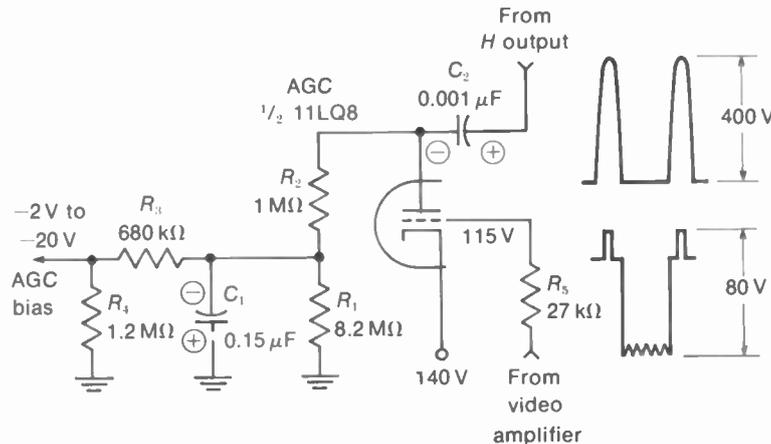
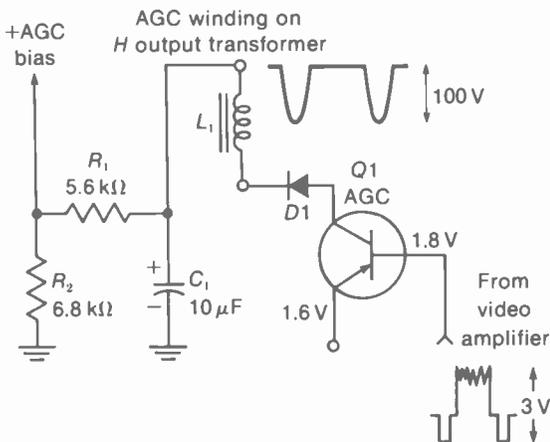

FIGURE 15-6 HORIZONTAL FLYBACK PULSES APPLIED TO PLATE OF TRIODE FOR KEYED AGC.
FIGURE 15-7 HORIZONTAL KEYING PULSES AT COLLECTOR OF AGC STAGE. NEGATIVE PULSES ARE USED HERE FOR PNP TRANSISTOR.
**Keying a triode AGC tube.** See Fig. 15-6. Video signal is directly coupled from the video output circuit to the grid of the AGC tube. The dc voltage here is +115 V because of the dc coupling. The grid-cathode bias is  $115\text{V} - 140$
The plate circuit of the AGC tube in Fig. 15-6 must produce negative voltage for the AGC bias line. This is why there is no B+ voltage for the plate. Instead, the plate is pulsed positive by the flyback pulses with a peak amplitude of 400 V to produce plate current. Furthermore, the plate current produces negative AGC voltage by charging  $C_2$ . When plate current flows, it charges  $C_2$  with the plate side negative. The path for charging current includes the cathode-to-plate circuit in the tube,  $C_2$  and the AGC winding in the horizontal output transformer, with electron flow returning to the cathode.
The function of  $R_5$  in Fig. 15-6 is decoupling to isolate the AGC tube from the video amplifier supplying the signal input.  $R_2$  in the plate circuit isolates the AGC circuit from the horizontal output circuit supplying the flyback pulses.  $R_1$  and  $C_1$  form the AGC filter. Finally,  $R_3$  and  $R_4$  form a voltage divider, with the voltage across  $R_4$  the filtered AGC voltage for the bias line.
**Keying a transistor AGC stage.** See Fig. 15-7. The idea of keyed AGC here is the same as for the triode in Fig. 15-6, but smaller voltage amplitudes are used for transistors. The collector is pulsed, instead of the plate. Furthermore, the required polarity of the flyback pulses is negative for the PNP transistor in Fig. 15-7. Note that
In Fig. 15-7, the 100-V flyback pulse is supplied by  $L_1$ , which is a separate winding on the horizontal output transformer. With this AGC winding, either polarity of flyback pulses can easily be obtained. In addition, the separate AGC winding isolates the AGC circuit from the horizontal output circuit. This method of obtaining the flyback pulses can be used with transistors or tubes.
The diode  $D1$  is necessary for isolation in the transistor AGC stage because the AGC bias voltage is the opposite polarity from the required collector voltage. In Fig. 15-7, the AGC voltage is positive, which would put forward voltage on the collector of the PNP transistor. However,  $D1$  isolates the positive AGC voltage. Remember that the arrow on the diode is the anode, while the bar is the cathode. Therefore,  $D1$  can couple the negative flyback pulses from cathode to anode for the collector. However, the positive AGC voltage cannot produce current from cathode to anode in the diode. As a result,  $D1$  prevents  $C_1$  from discharging through the AGC transistor.
It may be interesting to note that an NPN transistor could be used in Fig. 15-7. Then all the polarities would be reversed. The flyback pulses at the collector would be positive. The video signal would have positive sync polarity.
Typical circuits are shown in Figs. 15-6 to 15-11. Either the modulated picture IF carrier signal or the detected video signal can be rectified by the AGC stage to supply the AGC bias voltage. In most receivers, however, the AGC circuit uses signal from the video amplifier because the higher signal level allows more control by the AGC bias.
**Triode AGC circuits.** Referring back to the triode tube in Fig. 15-6 and the transistor in Fig. 15-7, these circuits illustrate a common type of keyed AGC. This stage is generally called the *AGC gate* or *AGC keyer*. The gating means that the stage is keyed on to conduct only during the horizontal flyback pulses.
**AGC blocking diode.** An example of an AGC blocking diode is  $D_1$  in Fig. 15-7 for transistor  $Q_3$ . If the diode is open, there will be no AGC voltage on the AGC bias line. If the diode shorts, there will be forward voltage on the AGC stage, making it conduct too much. The result can be